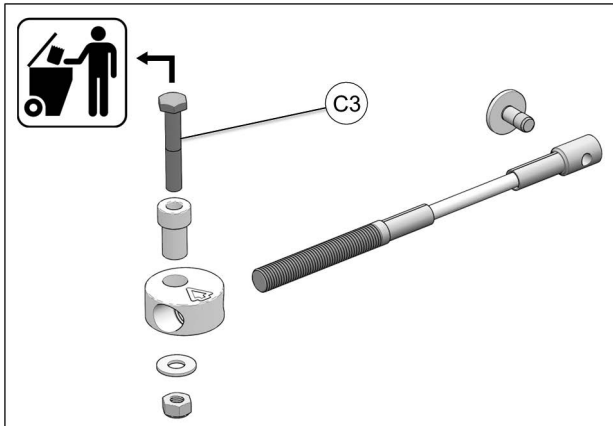

Fig. 20
12. Remove and discard M10 bolt (C3) from steering limiter cable parts kit as shown in Fig. 20